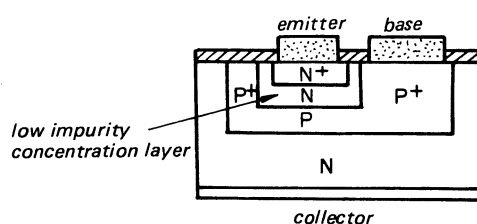

Fig. 1-2.
*2 Low-noise Transistor for Head Amplifier (See Fig. 1-2)